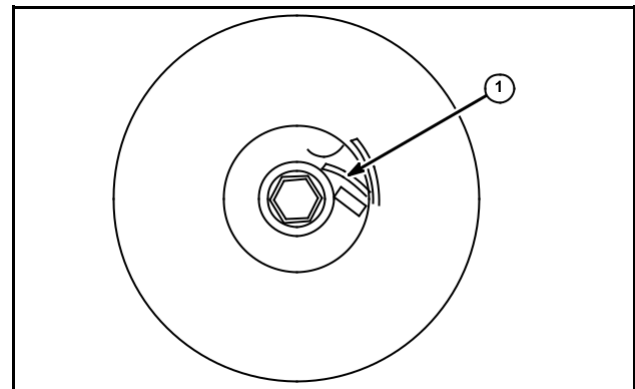

Fig. 24
7. Bend anchor tang (1) out and turn cover counter-clockwise to disengage spring hook from cover notch, Fig. 24.